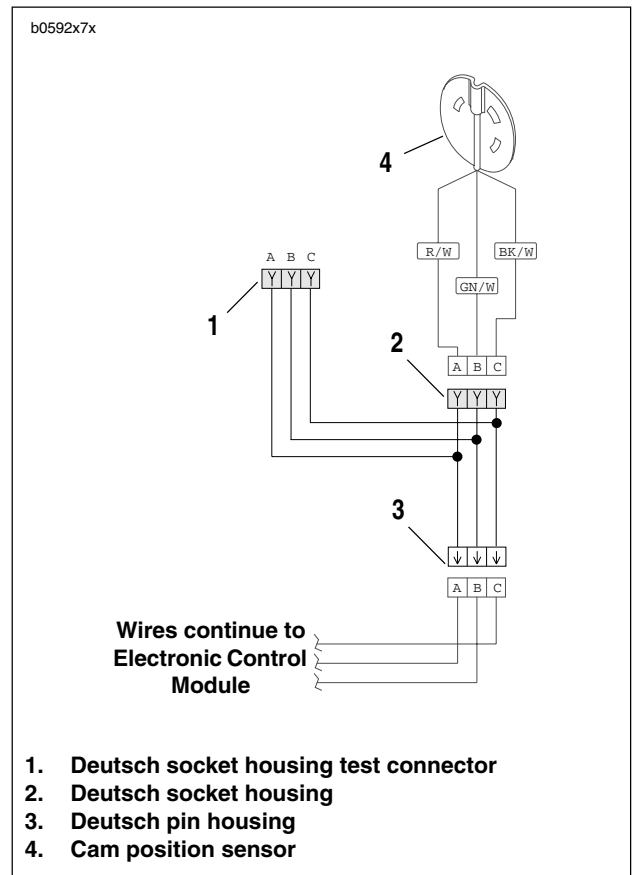

Figure 7-69. Testing Tachometer
2. See Figure 7-69. Connect the speedometer tester to the cam position sensor Deutsch socket housing using test harness. See Speedometer Sensor Test under 7.19 SPEEDOMETER PERFORMANCE CHECK for more information on test harness.
1. See Figure 7-69. Connect the speedometer tester to the cam position sensor Deutsch socket housing using test harness. See Speedometer Sensor Test under 7.19 SPEEDOMETER PERFORMANCE CHECK for more information on test harness.